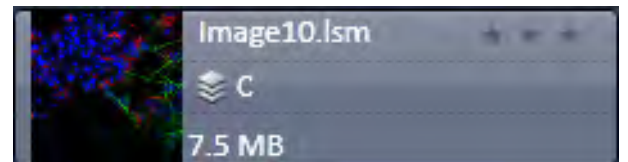

Fig. 277 2 Ch. Z-Stack image
- Example of a 2 Ch. Z-Stack displayed with a small thumbnail in the **Open Images** section (Fig. 277).